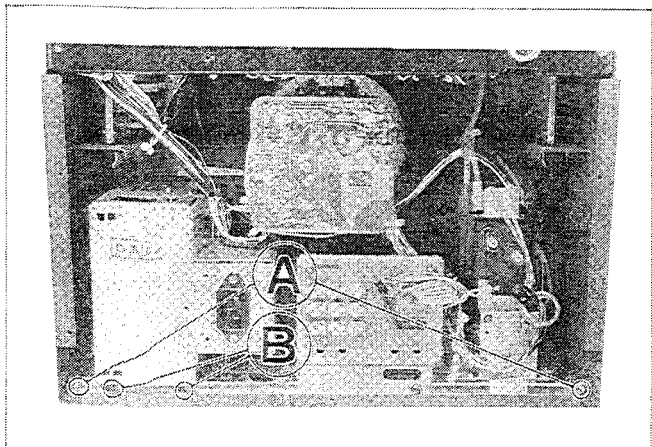

Fig. 3
Remove 2 screws (A) shown in Fig. 3 and pull the printed-circuit board toward yourself.
Remove 2 screws (B) shown in Fig. 3 and pull the printed-circuit board assembly toward yourself.